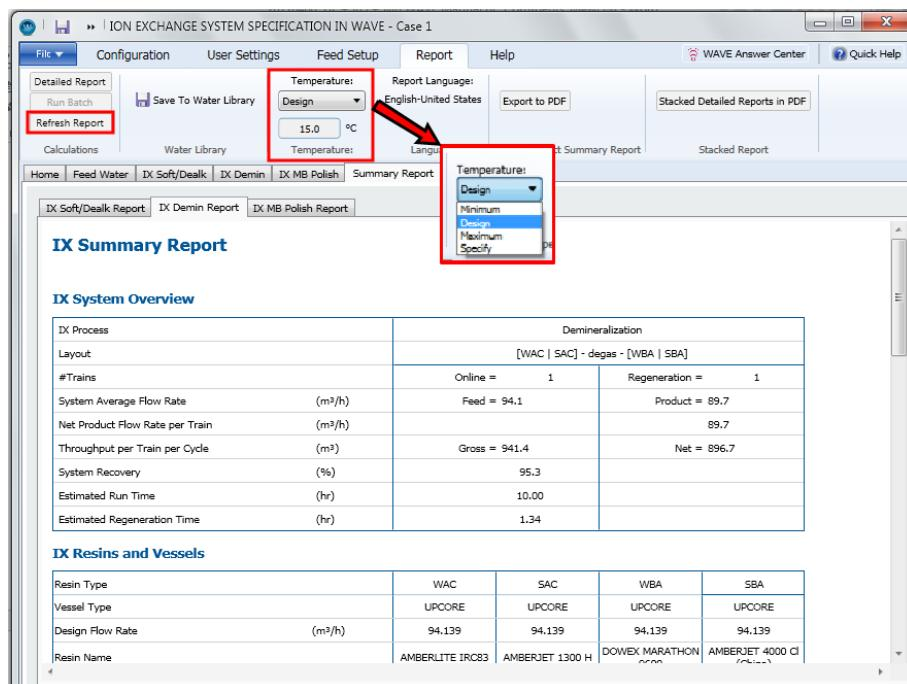

Figure 184. Re-evaluating the design at a different feed temperature
After the first simulation of the system, WAVE allows the user to rerun the simulation at a different temperature by following these steps (Figure 184):
2. Click on the "Refresh Report" button (see Figure 184).